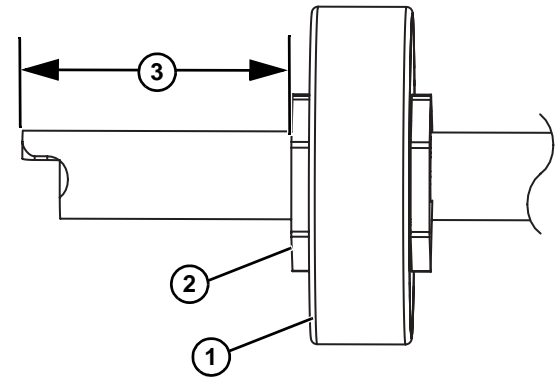

Figure 118
When assembling pucks (**Figure 118, item 1**) with retainer plates (**Figure 118, item 2**), make certain that there a minimum of 38 mm (1.5") of clearance (**Figure 118, item 3**) on each end.